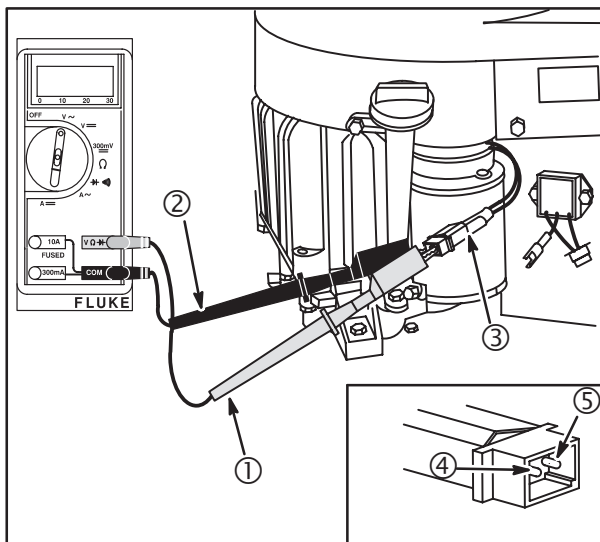

Fig. 27
4. Insert RED (1) and BLACK (2) test lead probes into output terminals (4, 5) in YELLOW connector (3), as shown in **Fig. 27**. (Test clip leads may be attached to either terminal.)